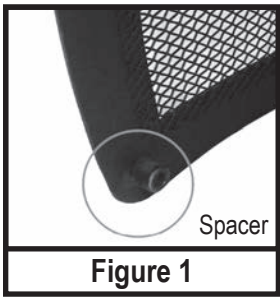

Figure 1
Ensuring the spacers face inward, [Figure 1] align the bolt holes of Outside Screens (B2) over Outside Screen (B1). [Figure 2] Loosely secure the screens by hand-tightening M6x12mm Bolt Sets (D). [Figure 3]